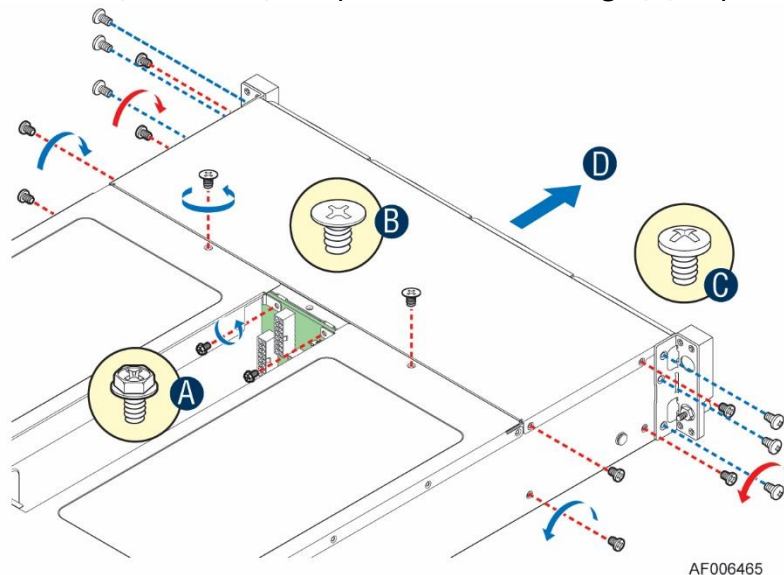

Figure 52. Removing the drive cage
5. Remove the drive cage screws (A, B, and C) and pull out the drive cage (D) as pictured in Figure 52.